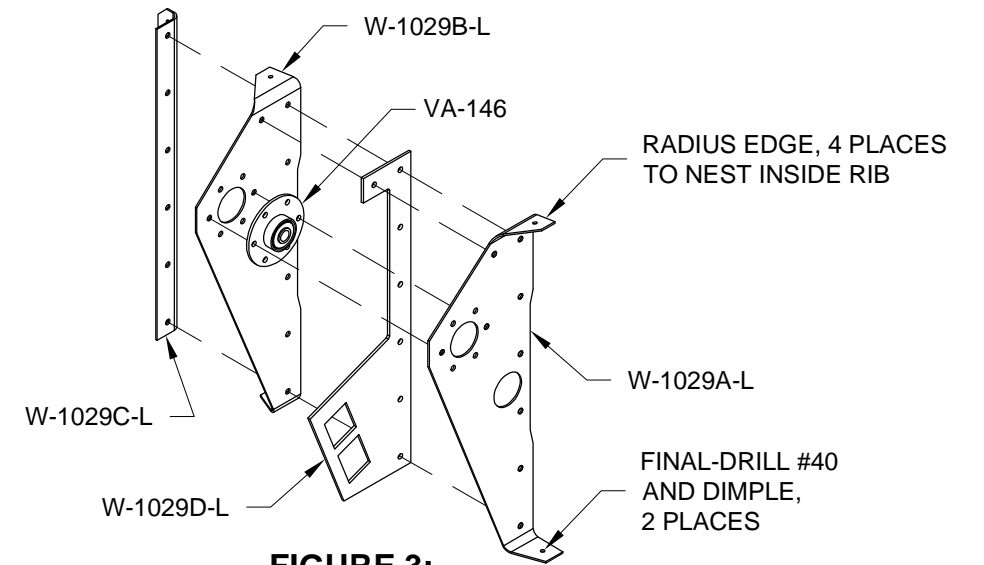

FIGURE 3:
Step 5: Final-Drill #40 the single .094 [2.4mm] hole in the bottom tab of each W-1029A-L and W-1029B-L Torque Tube Support Bracket. See call-out in Figure 3. Deburr the #40 holes and dimple.
Cleco the torque tube support brackets, W-1029C-L Angle, W-1029D-L Spacer and VA-146 Flange Bearing together as shown in Figure 3. Final-Drill #30 all common holes.
File a radius on the upper and lower edges of both torque tube support brackets. See call-out in Figure 3. This will allow them to "nest" inside the flanges of the W-1010-R Inboard Wing Rib as shown in Figure 4.